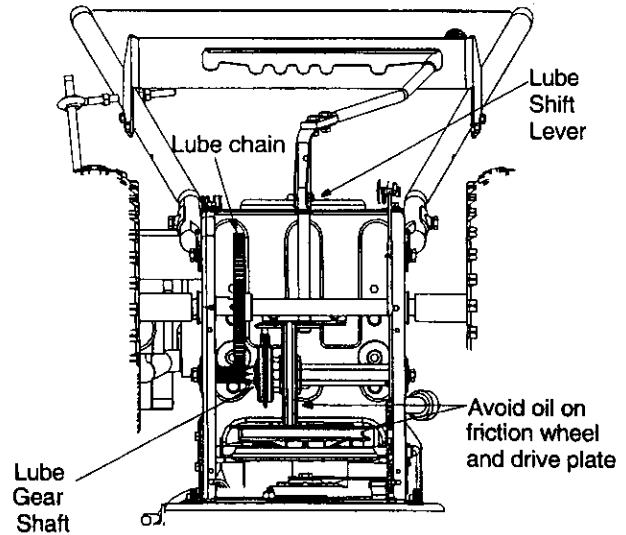

Figure 17
- Remove rear cover. Oil any chains, sprockets, gears, bearings, shafts, and shifting mechanism at least once a season. See Figure 17. Use engine oil or a spray lubricant. Avoid getting oil on rubber friction wheel and aluminum drive plate.